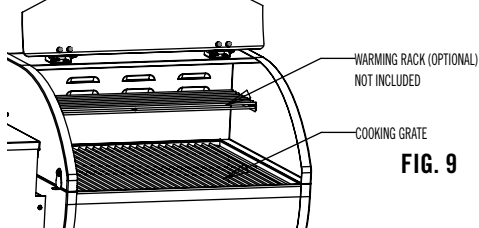

FIG. 9
1. Install the cooking grate as shown in Fig 9.